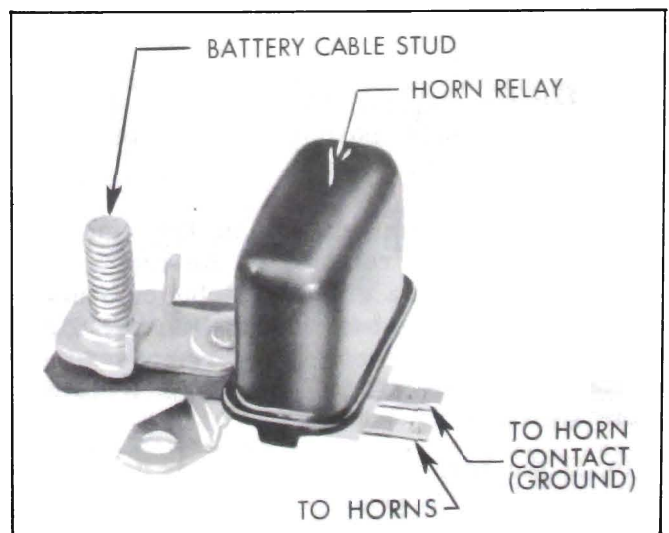

Figure 10-51—Horn Relay and Junction Block Assembly
2. If horns still do not blow when wire at mast jacket is grounded, unplug double connector from horn relay part of junction block assembly which is mounted on right wheelhouse. See Figure 10-51. Then plug a known good relay and junction block assembly onto the connector and press battery terminal of new assembly against old junction block battery terminal stud for a source of current. Have helper try blowing horns. If horns blow, original relay is defective and must be replaced.